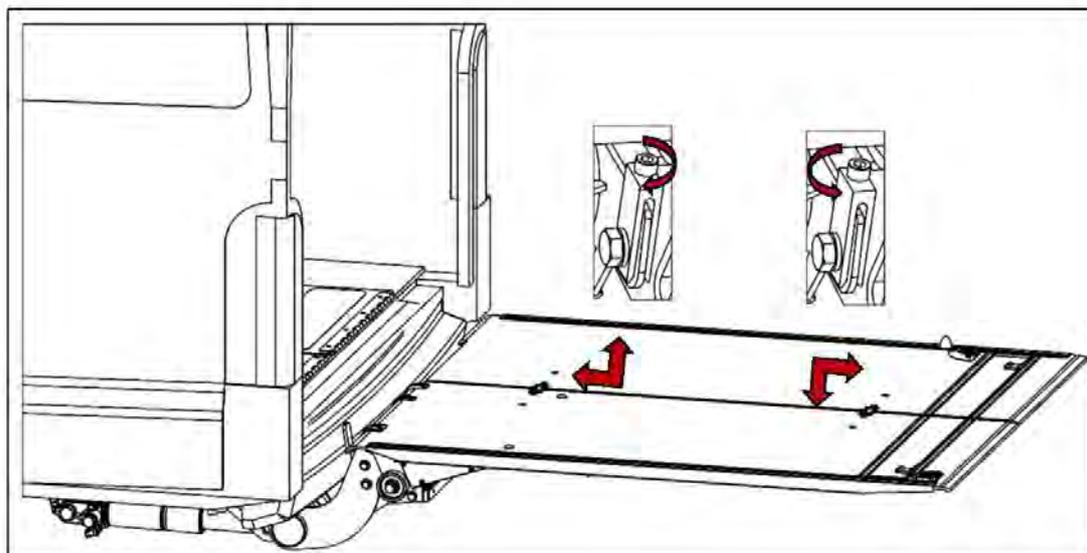

Figure 73
- Loosen the hex bolt (3).
- Rotate the adjustment screw (1) to the left or right.
- Rotating the adjustment screw (1) to the right moves the right side of the platform closer to the vehicle chassis. This slightly lifts the platform on the right side of the vehicle (see Fig. 73).
- Rotating the adjustment screw (1) to the left moves the right side of the platform away from the vehicle chassis. This slightly lowers the platform on the right side of the vehicle (see Fig. 73).